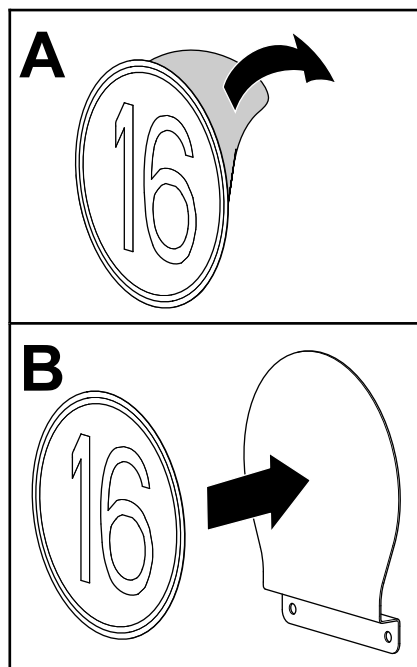

Figure 49
1. Remove the backing from a speed decal (Figure 49).
2. Align the decal to the speed sign as shown in Figure 49.